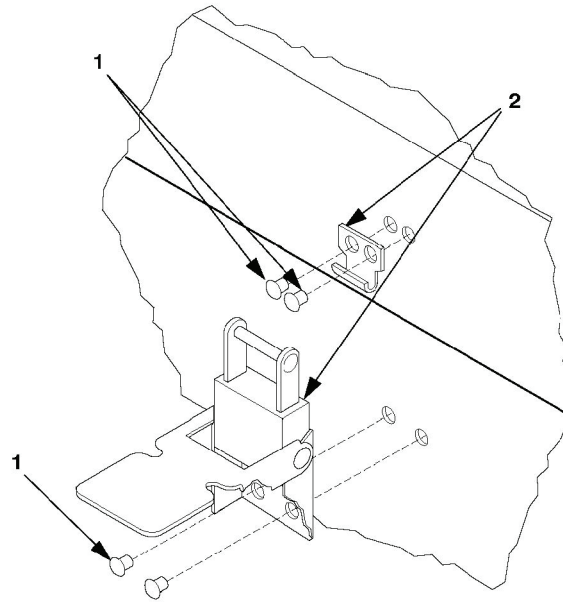

Figure 4-12. Clamping Catch Replacement (A Model)
1. Drill out rivets (1, figure 4-12) that secure clamping catch (2).
2. Remove defective clamping catch (2).